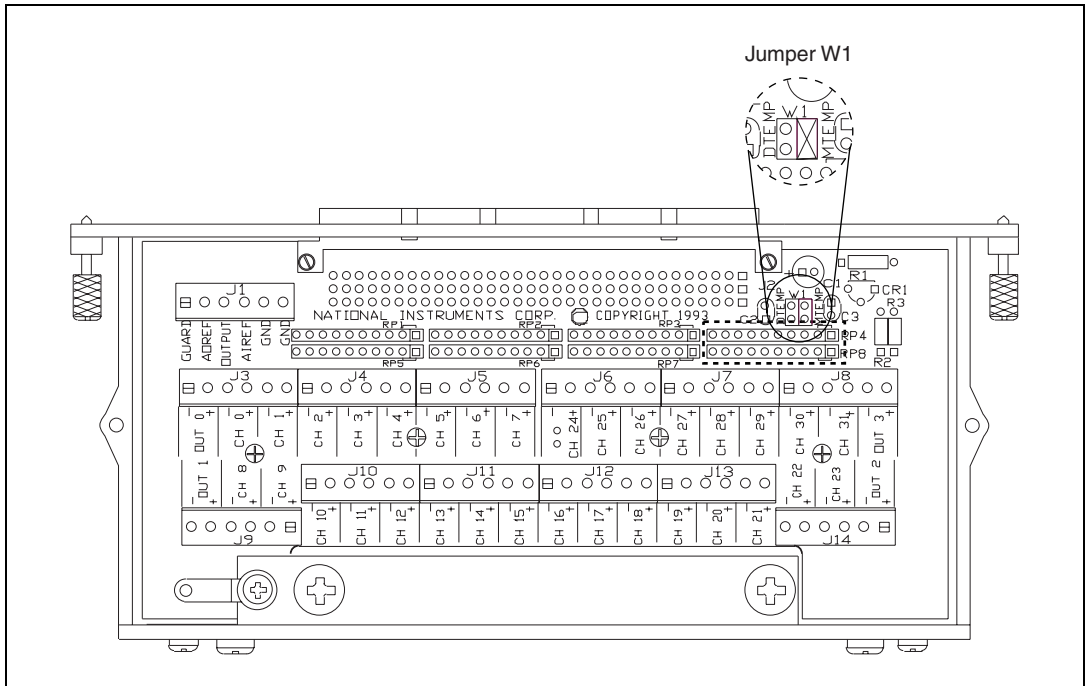

Figure 2. Location of Jumper W1 on the SCXI-1303 Terminal Block
- a. Refer to Figure 2 to locate jumper W1 on your terminal block and verify that MTEMP is jumpered.